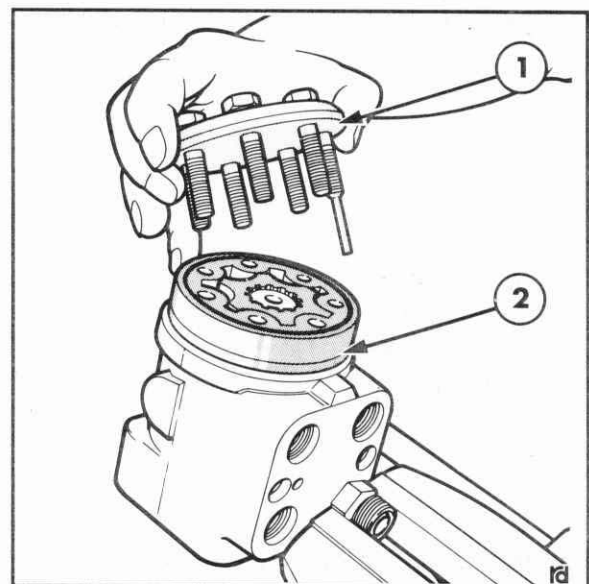

Figure 7-24
NOTE: One bolt has a pin connected to the end which forms part of the check valve assembly, Figure 7-24.
2. Remove the end plate, O ring seal and rotor cap, Figure 7-24.